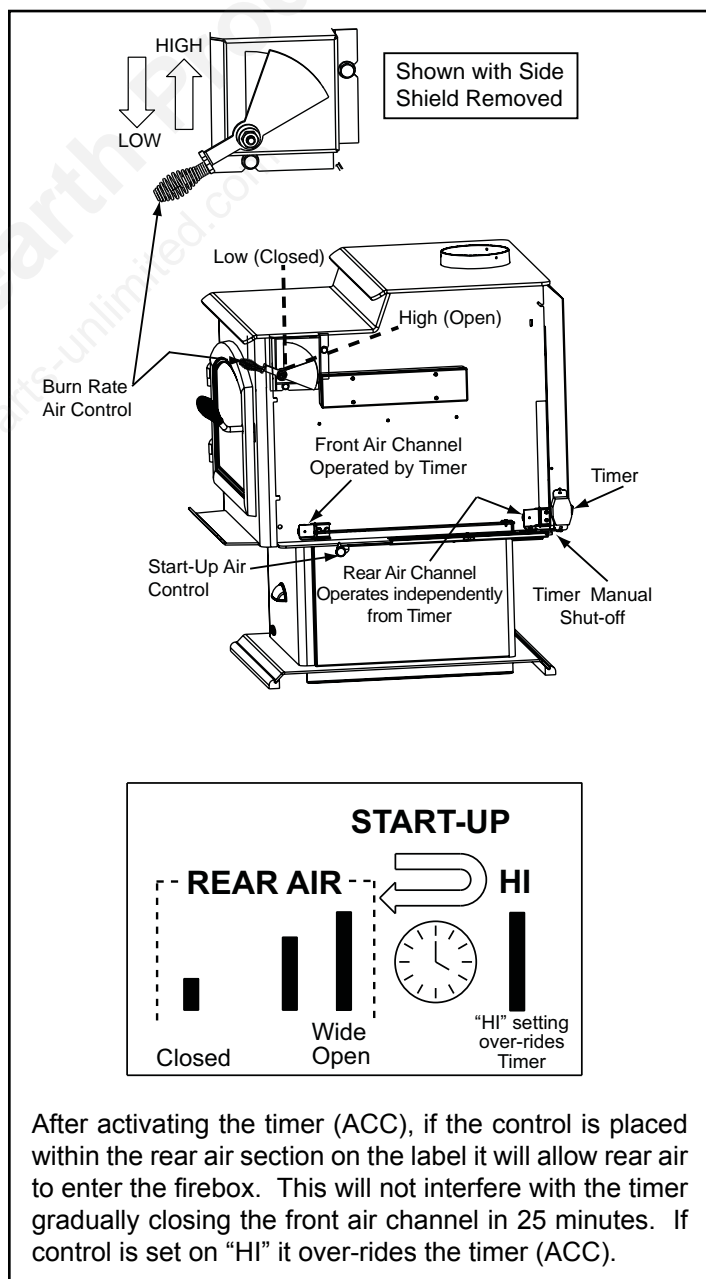

Figure 10.1
This air supply enters at the upper front of the firebox, near the top of the glass door. This preheated air supplies the necessary fresh oxygen to mix with the unburned gases, helping to create second, third and fourth combustions. This air is regulated by the Burn Rate Air Control. There are four settings High, Medium-High, Medium-Low and Low. When the control is raised all the way up it is on the High setting and when pushed all the way down it is on the Low setting. **Figure 10.1.**
1. This appliance has a timer system (ACC) that operates the stove at its maximum efficiency removing any guess work for the homeowner. Follow the instructions below for each burn rate for the Start-Up Air Control and Burn Rate Air Control. **Figure 10.1.**